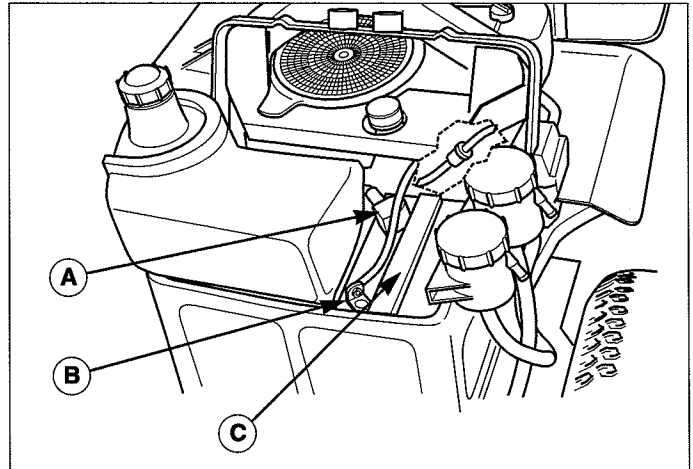

Figure 19. Checking & Cleaning Battery
2. Remove the battery filler cap (C, Figure 19). Fluid must be even with the split ring full mark. If not, add distilled water.
1. Disconnect the cables from the battery, negative cable first (B, Figure 19).
4. Reinstall the battery and reattach the battery cables, positive cable first (see A, Figure 19)